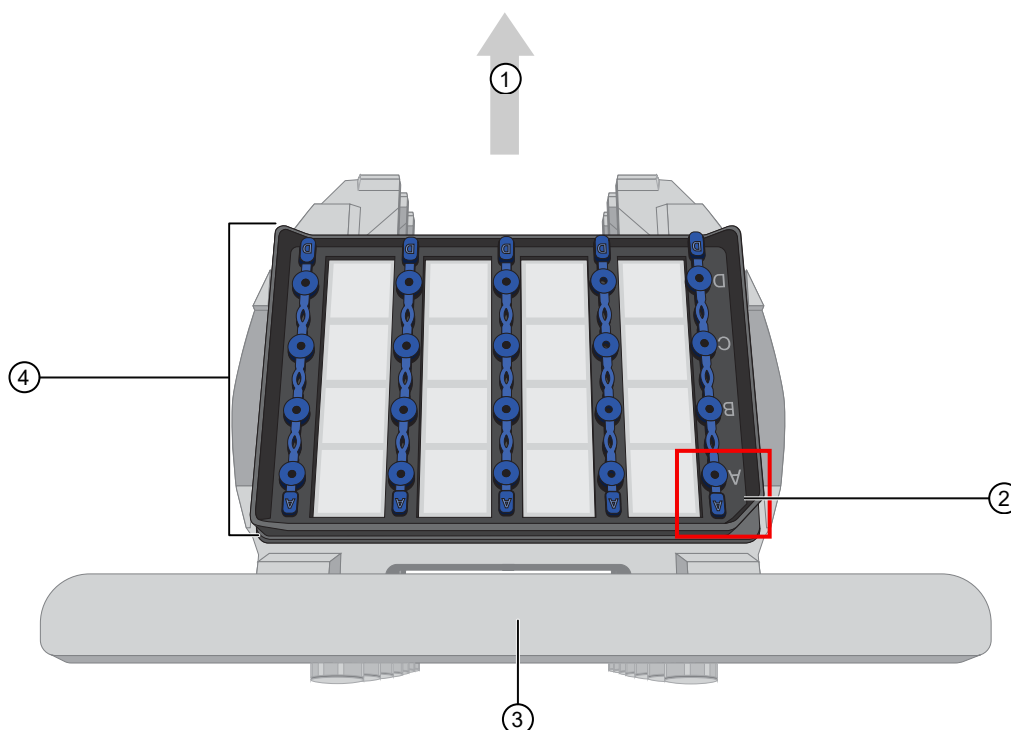

Figure 32 MAP plate in a hotel
1. Place each MAP plate into a plate nest in the hotels or stacks using the orientation shown in Figure 32.
Note: Figure 32 represents a plate loaded in a hotel plate nest. The same orientation is used for stack plate nests.